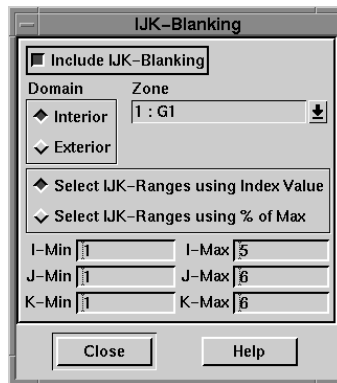

Figure 26-7. The IJK-Blanking dialog.
1. From the Plot menu, choose Blanking/IJK-Blanking. The IJK-Blanking dialog appears as in Figure 26-7.